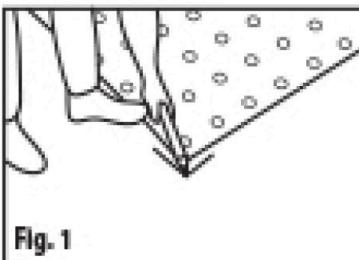

Fig. 1
3. Lay out the panel on the concrete substrate and mark around the panel corners with a pencil to identify the designated installation location. (Figure 1)